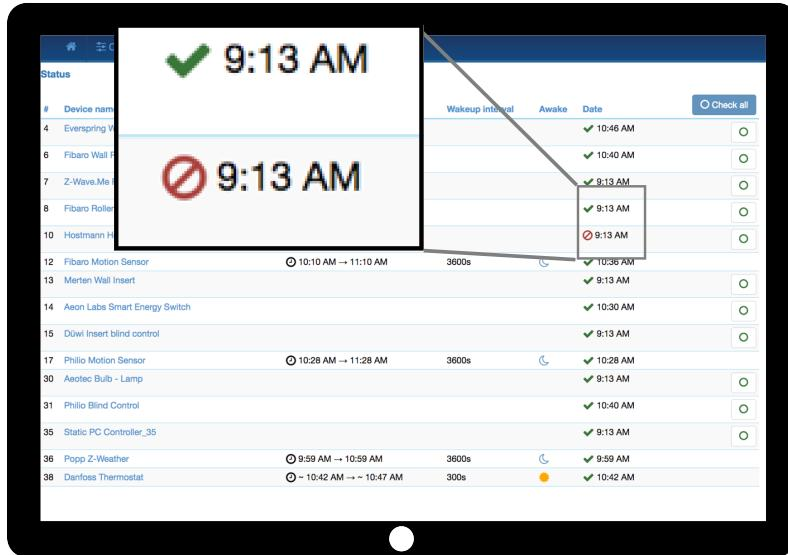

Figure 8.5: Status Page Z-Way™
- They are dead, removed, faulty, stolen, etc. In case of a mains-operated device, the central Z-Way™ controller will eventually find out that the device is not responding. It will put the device in the failed node list (for more information about failed node please refer to Chapter 7). The **Devices** **➤ Status Overview** as shown in Figure 8.5 indicates if a device is failed or not. It is possible to make a test if the device is working.